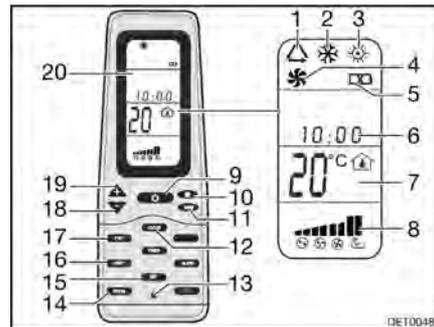

Fig. 126 Remote control
- Press the ON/OFF button (Fig. 126,9).
- Press the "Mode" button (Fig. 126,11) as often as required until the required mode (Fig. 126,1, 2, 3 or 4) is indicated on the display (Fig. 126,20).
- Use the "+" (Fig. 126,19) and "-" (Fig. 126,18) buttons to set the desired temperature.
- Use the fan speed button (Fig. 126,10) to select the desired fan level.